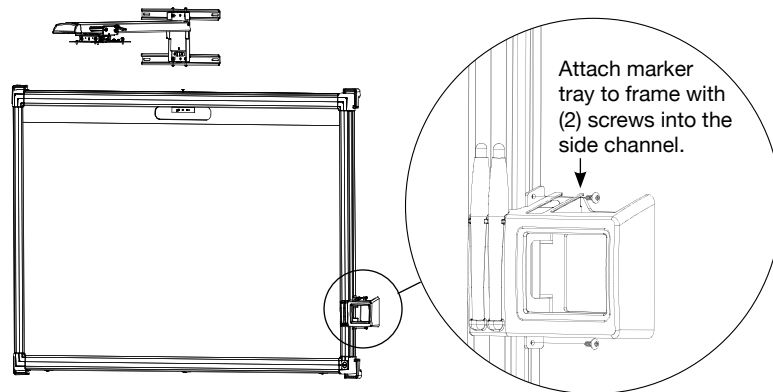

Figure 9
17. Secure marker tray to right side of screen frame at desired height by using (2) of the supplied #8 x 1/2" screws into the side channel of the screen frame (Figure 9).